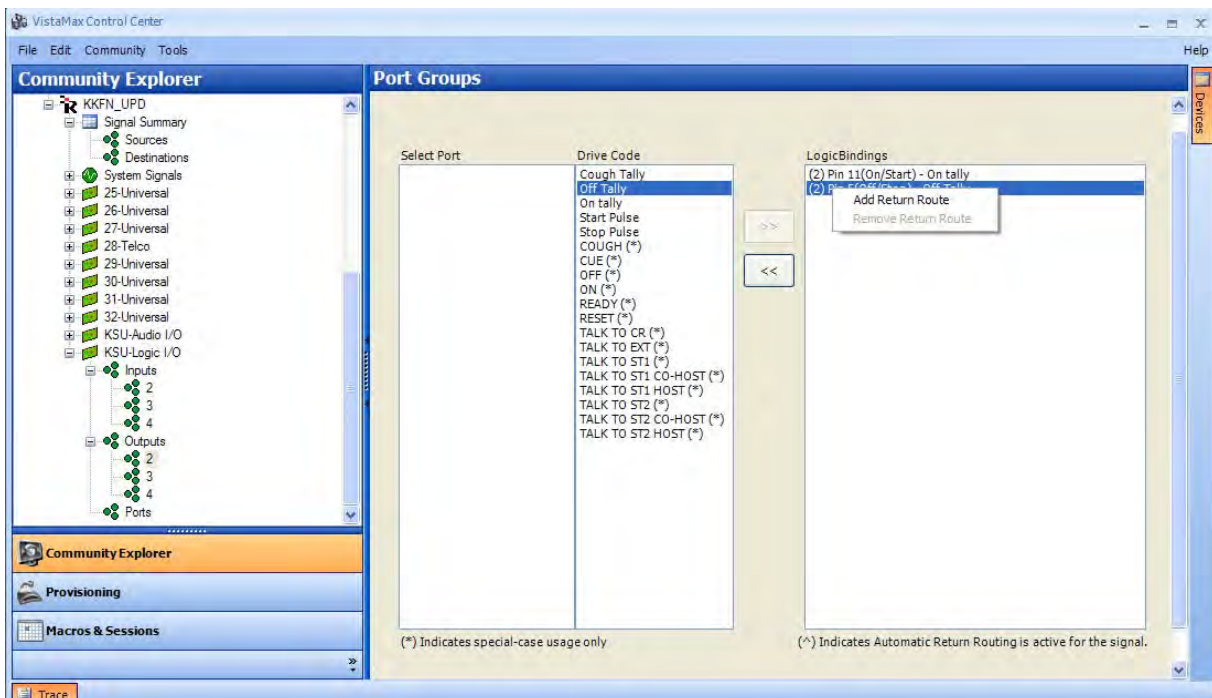

Figure A-17. VMCC Port Groups – Logic Bindings Right-Click Menu
5. Right-click in the **Logic Bindings** column to access the menu (Figure A-17).